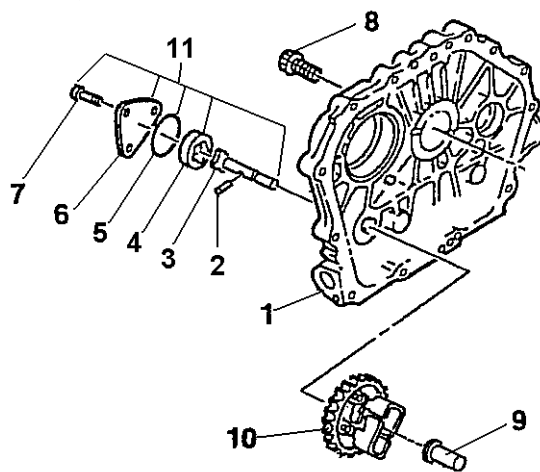

Figure 1. Oil Pump Maintenance.
1. Remove oil pump cover (6) from crankcase cover (1) by removing three screws (7). See Figure 1.
2. Remove and discard O-ring (4).
3. Remove parallel pin (2) and slide oil pump out of the crankcase cover.
4. Remove outer rotor assembly (4) from inner rotor (3).
5. Remove governor assembly (10) and pin (9).